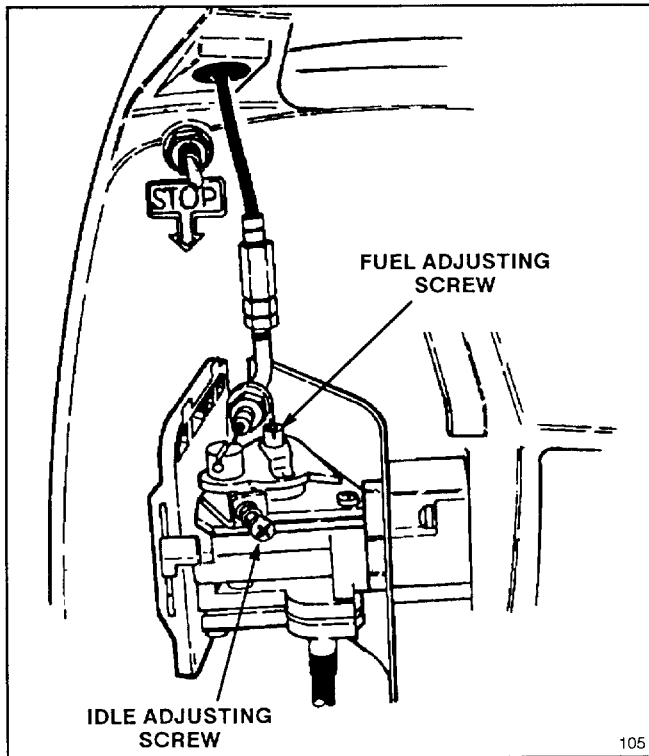

Figure 7
ADJUSTING CARBURETOR (Fig. 7)
1. Fuel Adjusting Screw – Screw is set in the middle of five notches. If adjustment is too rich, turn screw to the right. If adjustment is too lean, turn screw to the left (Fig. 7). Adjust while engine is at low speed.
2. Idle Speed Adjusting Screw – Adjust screw to attain idle speed of 3000–3200 RPM (Fig. 7).